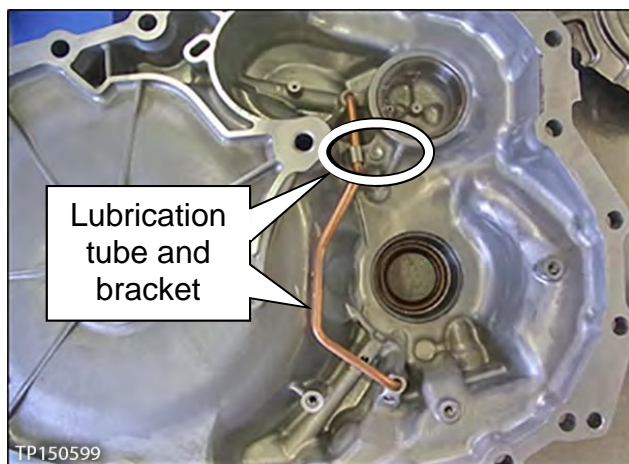
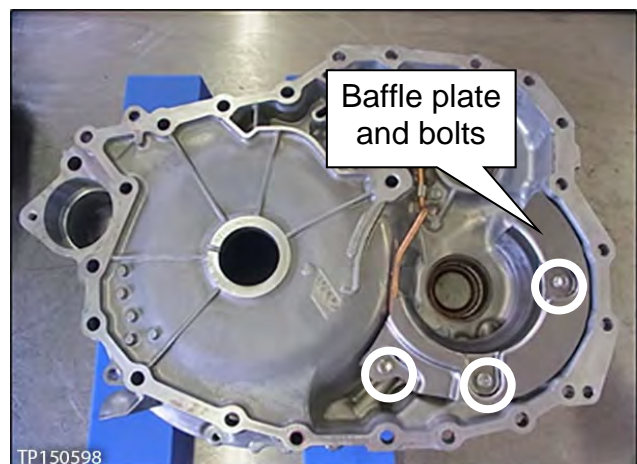

Figure 131
Figure 132
98. Install the lubrication tube, bracket and bolt, and then the baffle plate with three (bolts (Figure 131 and Figure 132).